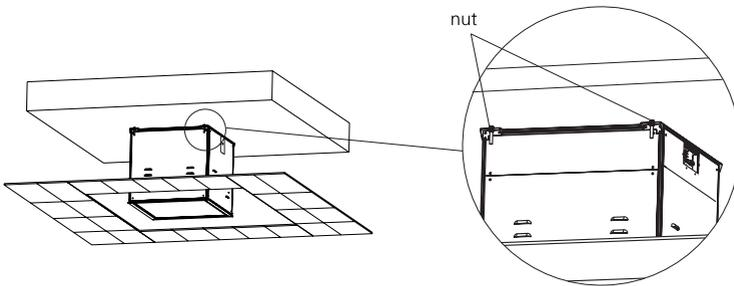

figure 6
4. Figure 6 - check the alignment of the projector lift: